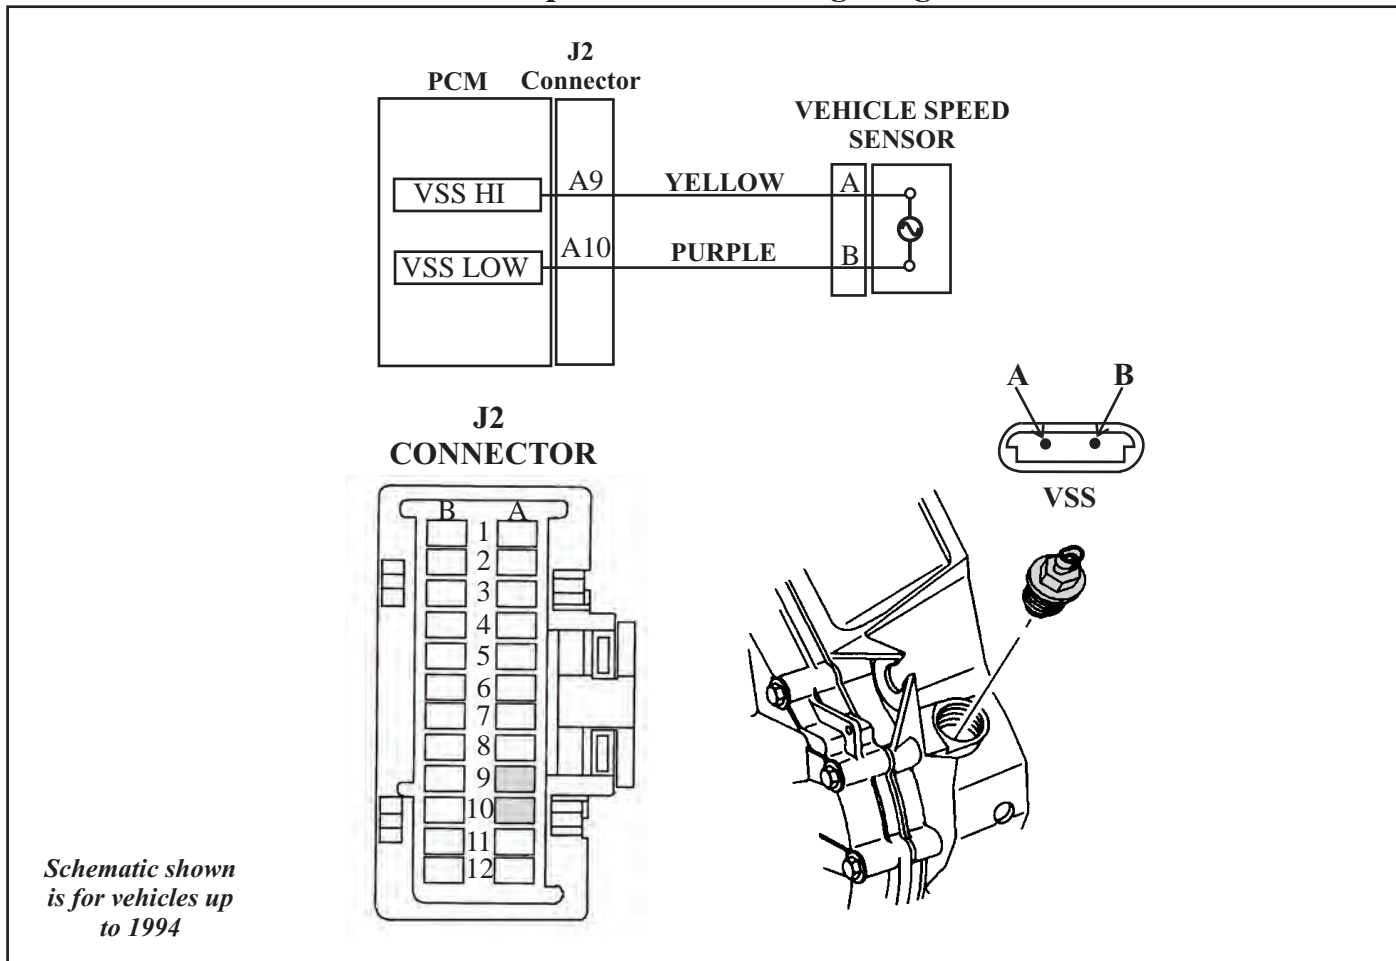

Figure 28
The Vehicle Speed Sensor (VSS) is located on the transaxle case by the differential (See Figure 28). This sensor is also a PM generator which produces a pulsing voltage (AC) whenever the vehicle speed is above 5 km/h (3 mph). These pulses occur sixteen times per each revolution of the differential housing and is converted to provide vehicle speed in miles per hour inside the PCM. These pulses can be viewed with a DVOM set to Hz. If a DVOM is set on AC volts, voltage would increase with speed. If this sensor is checked with an ohm setting, the resistance value should be between 800 to 1600 ohms. The Vehicle Speed signal can also be checked and viewed through a hand held scanner.